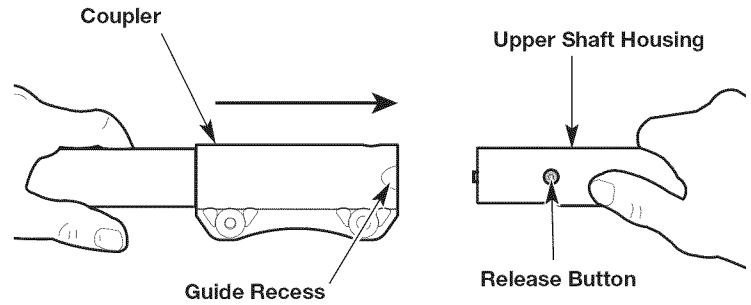

Fig. 9
4. Align the release button with the guide recess (Fig. 9).
5. Push the coupler straight onto the upper shaft housing (Fig. 9).